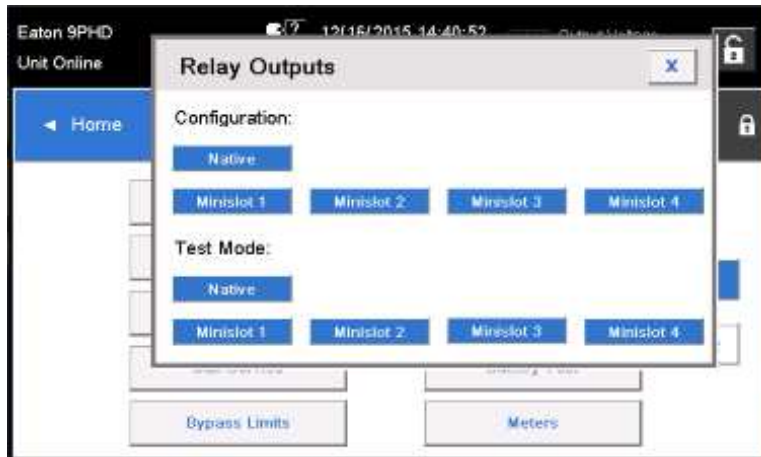

Figure 36. Options for relay outputs configuration
10. You can test the relays by selecting any of the options in the test mode (see Figure 36).